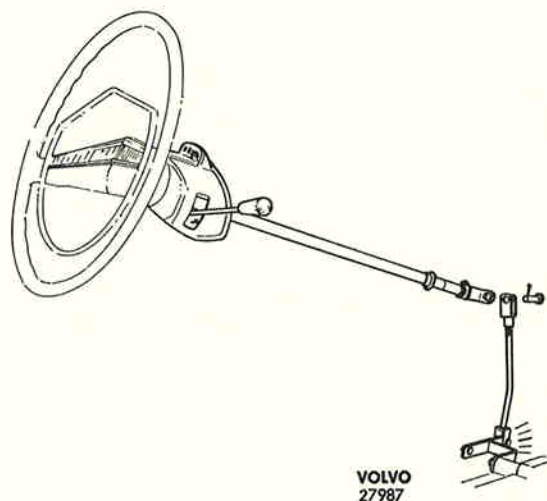

Fig. 25. Adjusting selector controls.
1. Disconnect the pull rod from the lever on the selector shaft. Set the selector lever to "N", see Fig. 25.